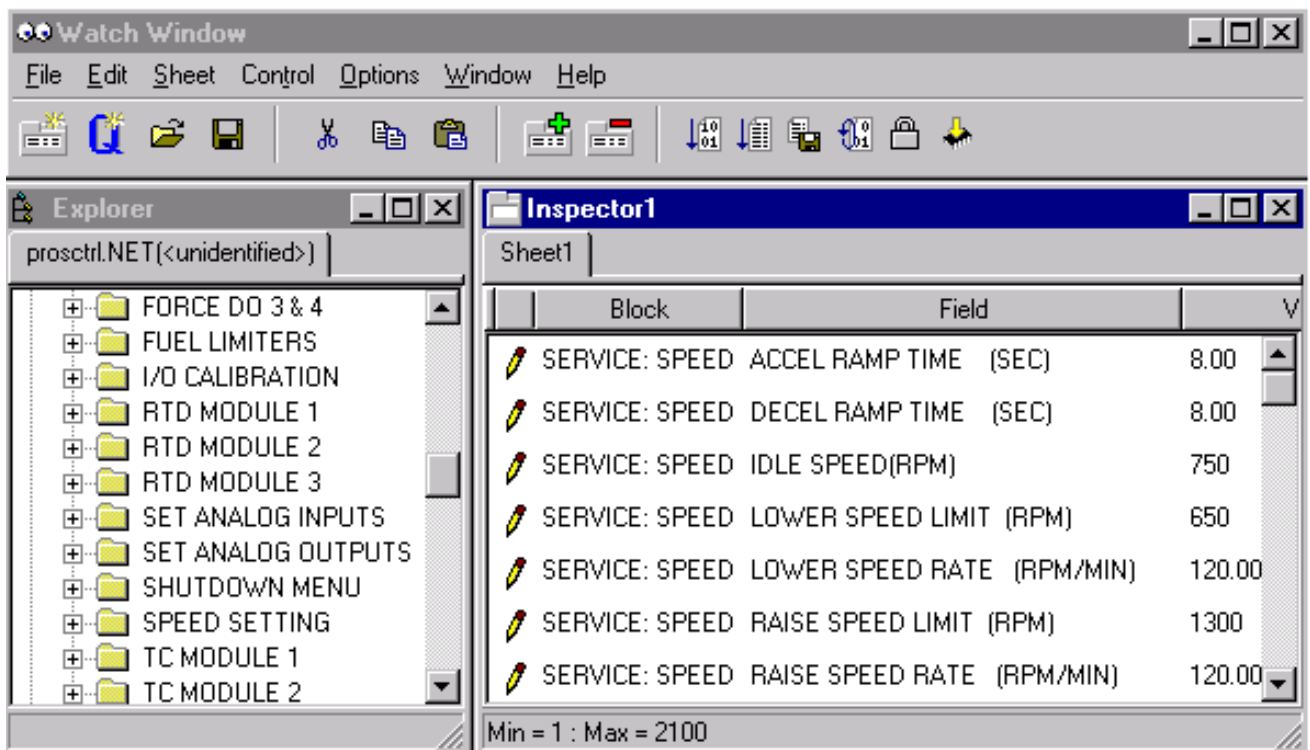
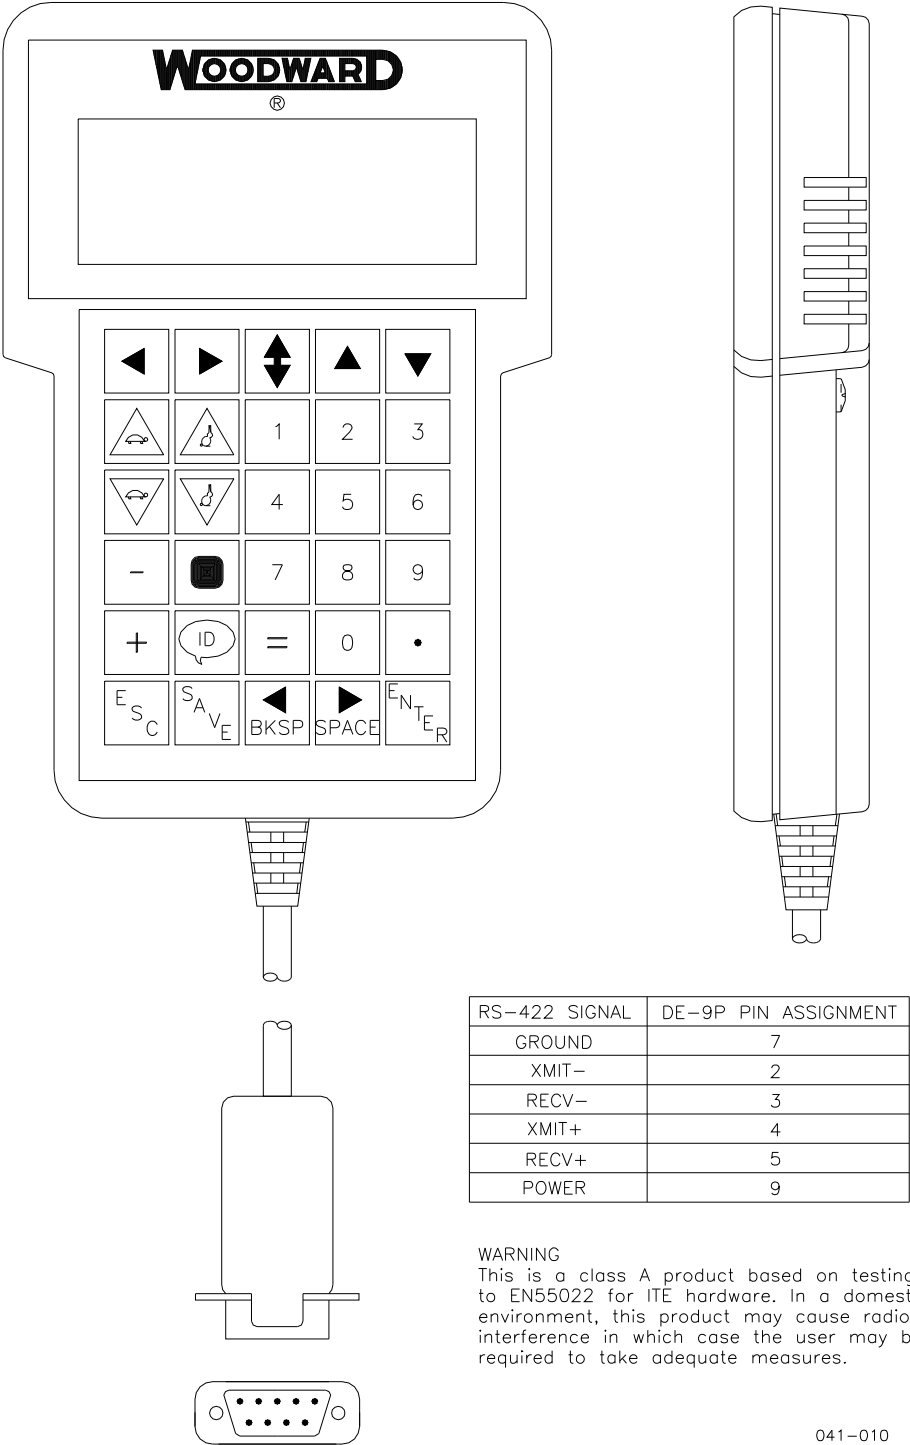

Figure 1-3. Watch Window Display
Figure 1-4. Hand Held Programmer
- Servlink Watch Window (Figure 1-3) or a handheld terminal (Figure 1-4) for adjusting control parameters
PC based Watch Window software (part number 8923-932) and a Hand Held Programmer (part number 9907-205) are used for monitoring and adjusting software parameters of the 723PLUS control, including the software options. They plug into communication port J1 of the control. [Hand Held Programmer part number 9905-292 can also be used.] See Figures 1-3 and 1-4.